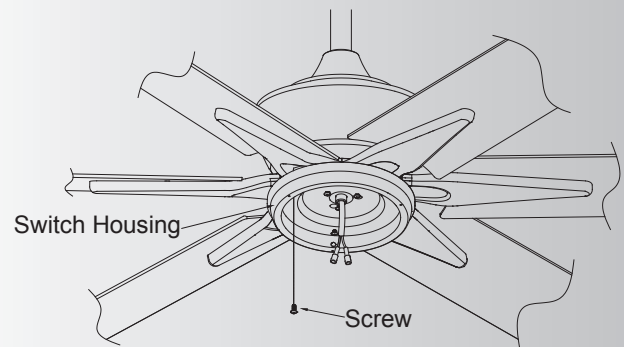

Fig. 20
**Step 1.** If installing with steel cap and no light kit, skip to step 4 on page 9. Remove one of the three screws in the switch housing. Retain the screw for later and slightly loosen the remaining two screws. (Fig. 20)